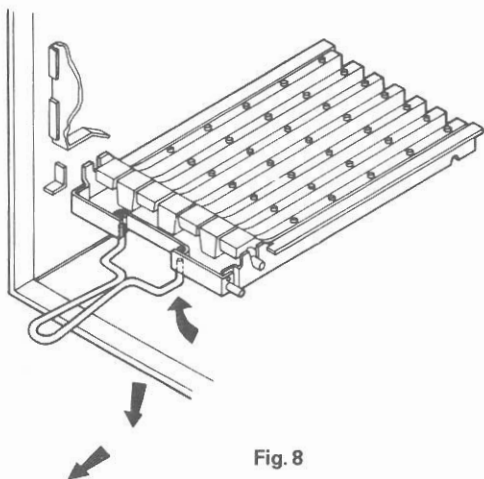

Fig. 8
2. Insert wire tool into locating sockets of grate frame (See Fig. 8) lifting hand holding end of tool upwards until grate frame is free of its supports. Taking the weight of grate frame, gently lower front of grate assembly until it rests on ashpit bottom plate.